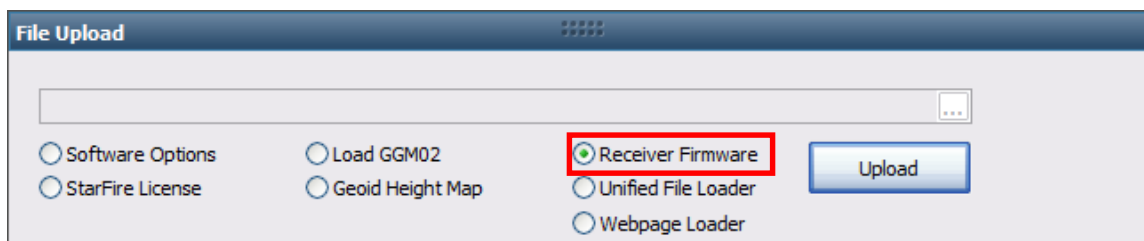

Figure 69: File Upload – Receiver Firmware
2. Select *Receiver Firmware on the File Upload* window (see Figure 69).